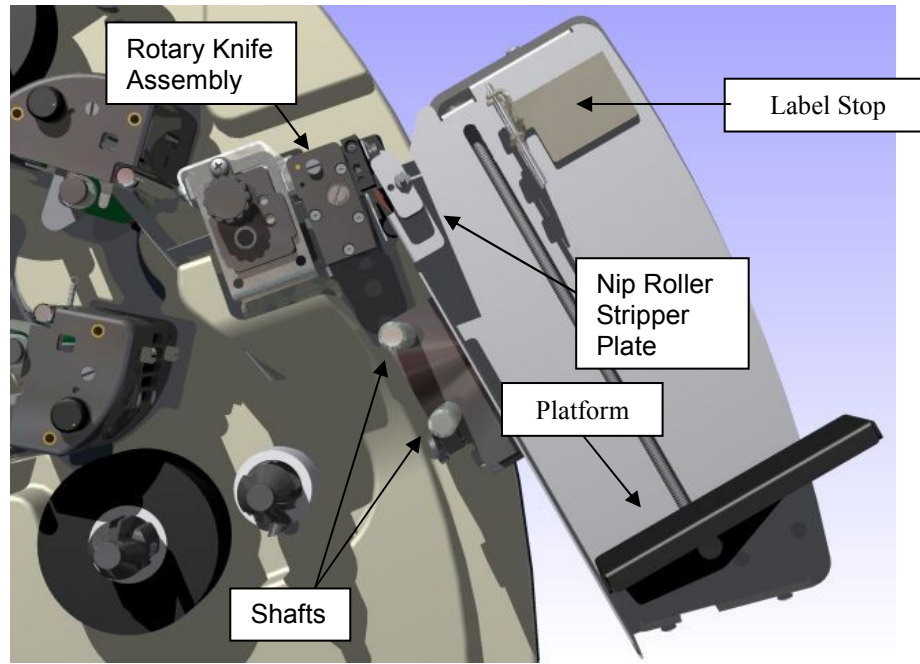

Figure 4: Rotary Knife and Stacker
1. Locate the two shafts on the printer below the Rotary Knife assembly (see Figure 4).